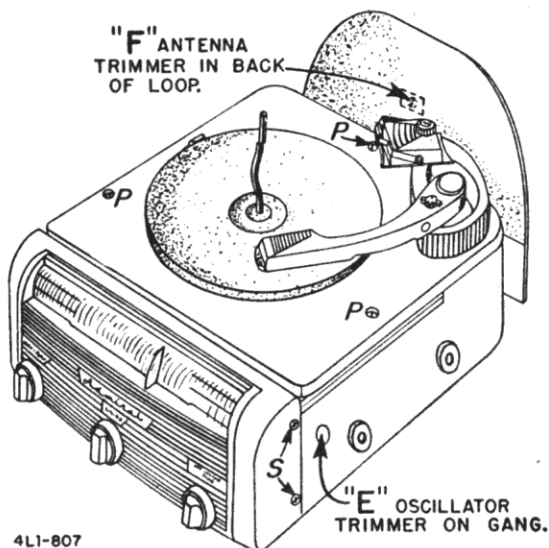
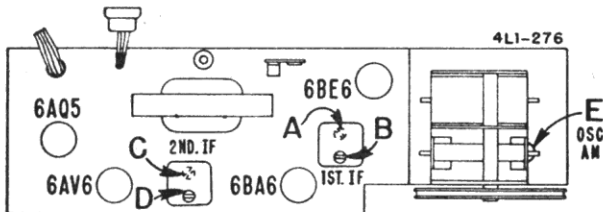

Figure 35. Radio-Phono Unit.
Figure 39. Radio Trimmer Locations.
Oscillator trimmer "E" and antenna trimmer "F" are accessible from the outside of the radio-phonograph housing, see figure 35.
The radio tubes can be serviced from top of the chassis by merely unscrewing the three screws "P" (figure 35) and lifting away the record changer assembly.
- c. Remove the radio front housing mounting screws "S" (Figure 35) at the sides and at the seams on the underside of the housing.
*Oscillator and antenna trimmer are accessible without disassembly of chassis housing and dial scale. See Figure 35. For IF slug adjustments, it will be necessary to remove and disassemble the radio chassis as instructed under "Removing Radio Chassis Only For Servicing". See Figure 39 for trimmer locations.*